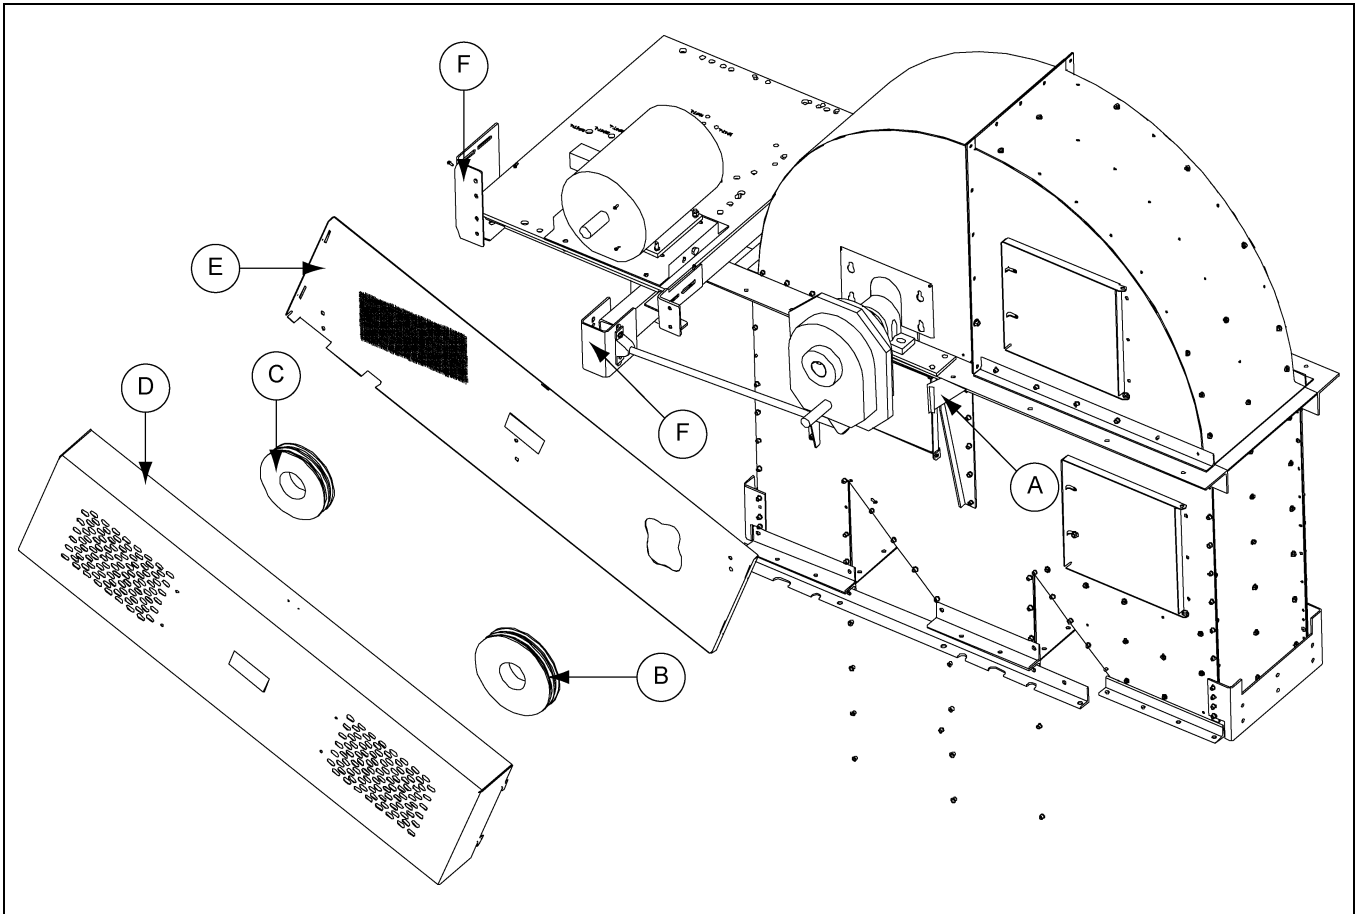

Figure 11F Belt Guard (Right hand drive shown.)
1. Attach the drive guard brackets to the motor mount assembly. (See Figures 11F-11J on Pages 40-43.) The shorter, broken legs of the brackets will point towards the pulley.
2. Align the guard rear panel of the guard to the brackets. NOTE, in a right hand drive application (as shown in Figures 11F-11J on Pages 40-43) the flanges of the guard rear panel will face away from the head section, but in a left hand application, the flanges will point towards the head section.
4. Using hardware, bolt the two (2) struts together. All brackets are designed to be adjustable.
8. Install the safety screen around the motor output shaft by approximating the hole location to the screen and snipping a clearance hole in screen. (See Figure 11F on Page 40.)